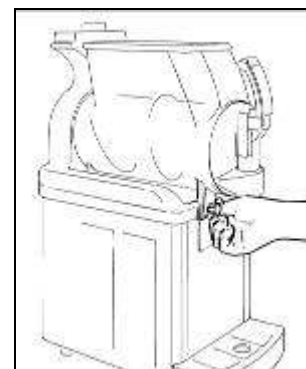

Fig. 26
- Fix the bowl by reinsert the knobs (fig.26).